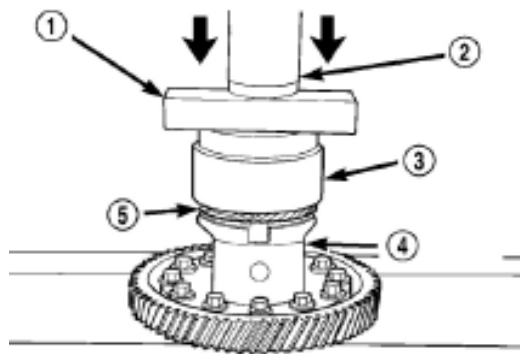
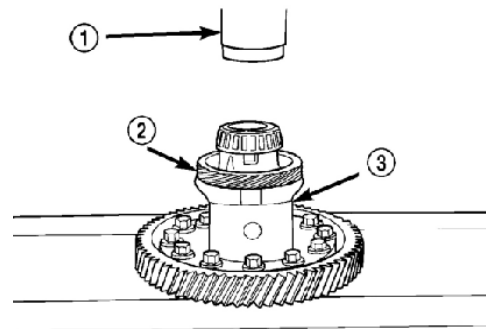

Figure 3-96 Pressing gear into differential
Figure 3-97 Pressing differential drive gear
(7) Press the speed drive gear into differential casing with hand press, bloom and tool L-4440 (Figure 3-96 and Figure 3-97)